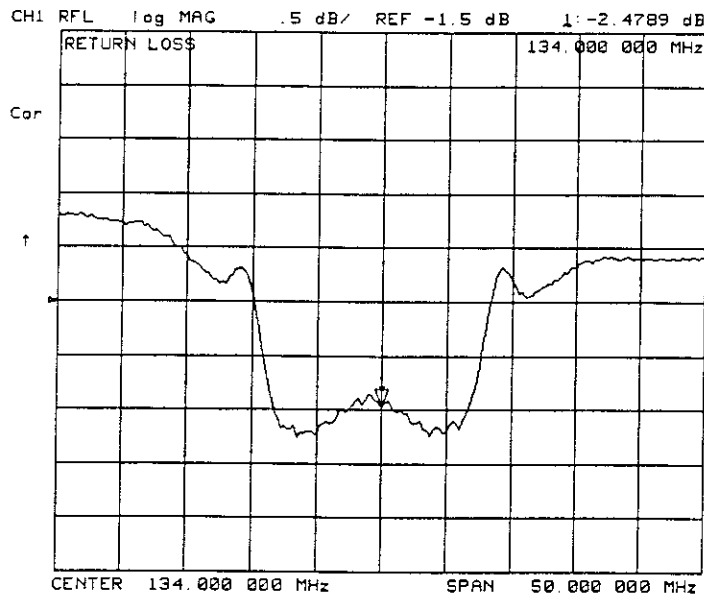

Figure 2-9. Example Measurement Title
2. Press **DISPLAY** **MORE** **TITLE** and then create a title for the measurement, as shown in Figure 2-9: